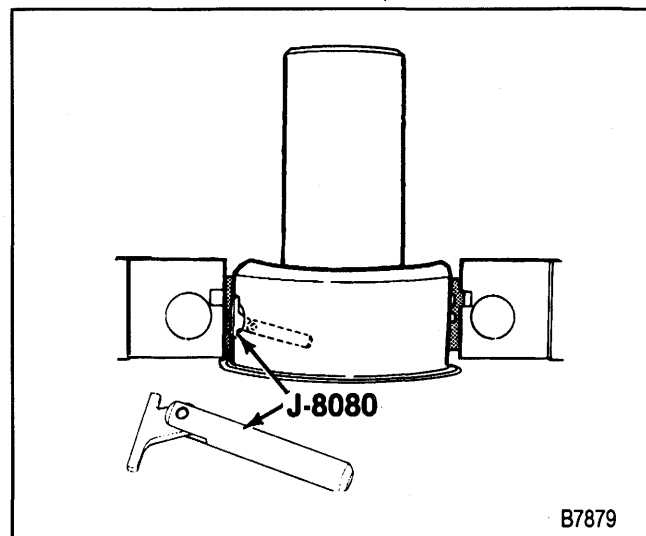

Figure 30—Removing the Main Bearing
Remove or Disconnect (Figure 30)
- Insert J 8080 into the crankshaft oil hole (figure 30).
Install or Connect (Figures 30 and 31)
- A. Insert tool J 8080 into a crankshaft main bearing oil hole (figure 30).